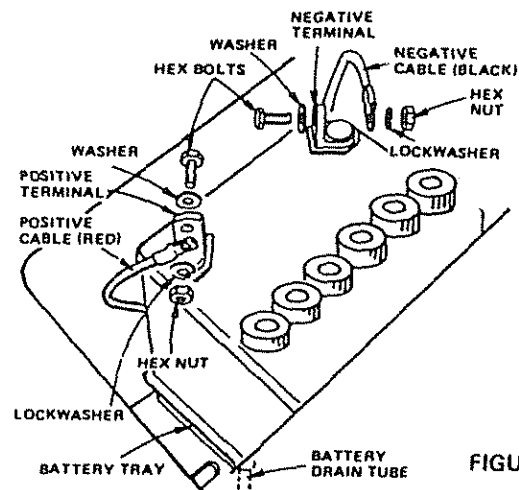

FIGURE 4
- Lower battery into fender well with battery terminals toward front of tractor (Fig. 4). Make sure battery rests in battery tray (Fig. 4)
- Connect **RED** battery cable to positive (+) battery terminal with hex bolt, flat washer, lockwasher and hex nut (shown full size on pg. 6) found in bag of parts. Tighten securely with two 7/16" wrenches. (Fig. 4)
- Connect **BLACK** ground cable to negative (-) battery terminal with remaining hex bolt, flat washer, lockwasher and hex nut (shown full size on pg. 6) found in bag of parts. Tighten securely. (Fig. 4)